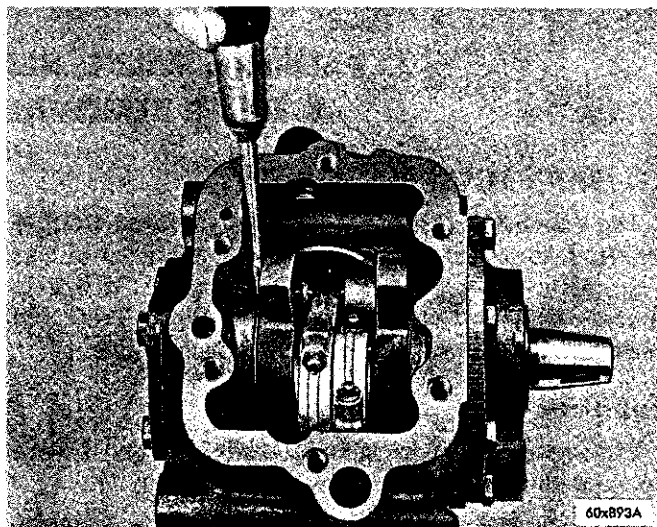

Fig. 44—Measuring the Crankshaft Axial Movement
- (1) Press the crankshaft ball bearing on the crankshaft using a sleeve which bears on the inner race only.
- (2) Install the crankshaft, making sure that the thrust washer is on the rear bearing journal before placing the crankshaft in the crankcase.
- (3) Rotate the crankshaft to engage the oil pump shaft in the crankshaft slot.
- (4) Install the gas seal and crankshaft bearing housing. Use a suitable tool, as shown in Fig. 44 to assure the free axial movement.
- (5) Install the pistons and connecting rods.
- (6) After the pistons and connecting rods are installed, turn the crankshaft to check freeness. The shaft should turn without binding.